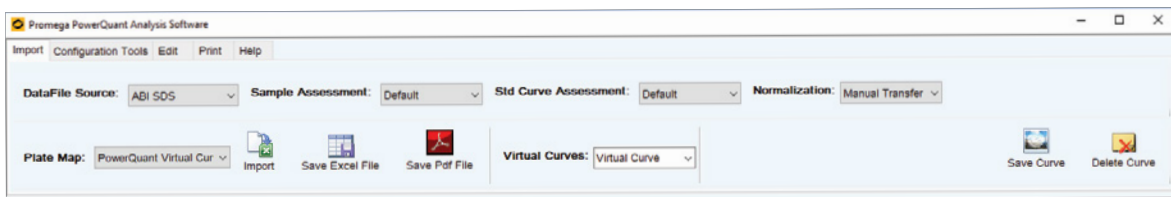

Figure 89. Naming a virtual curve.
2. Review standard curve data and evaluate whether the standard curves for each target meet acceptance criteria. Once standard curve data are determined to be acceptable, enter a name for the standard curve in the 'Virtual Curves' drop-down menu (Figure 89).